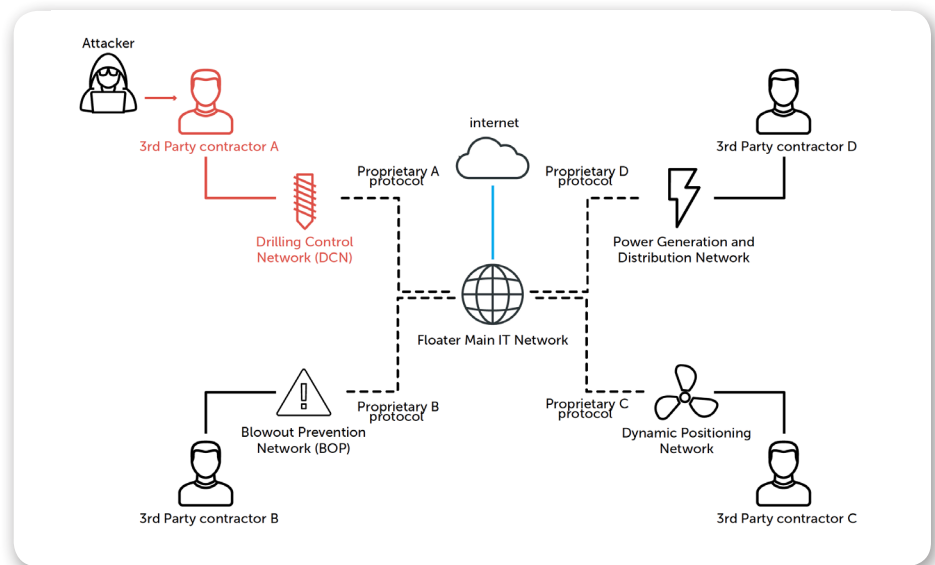

Fig. 2 OT Network Attack 1: Compromise the Third-party Contractor
1. Remote access required by the network contractors for maintenance activities introduces a new attack surface. Compromising a privileged third-party account to gain an initial foothold on the network is a common attack vector that has been utilized numerous times in targeted attacks. (Fig. 2)